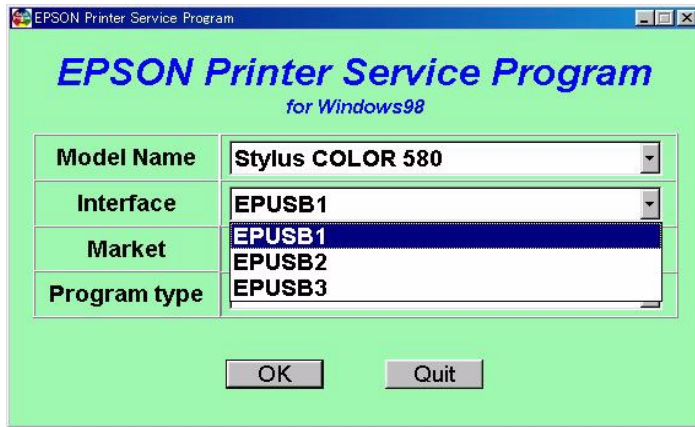

Figure 5-3. Model Name Selection
2. Select the USB port number which you connect the printer to your PC as above Figure 5-3.
If you want to exit this program, click the “Quit” button. Following menu is displayed on the screen. And clicking the “Quit” Button in the following menu exit the adjustment program completely. Clicking the “Next” button returns to the Top menu (Initial setting menu) of Figure 5-3.